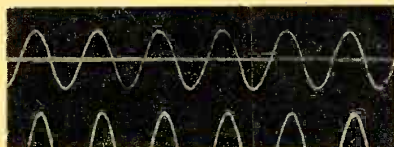

Fig. 1. An Interesting Oscillogram of the Resulting Wave Shape Which is Remarkably Sinusoidal.
(3) The wave of the alternating produced is remarkably sinusoidal in shape. This may better be illustrated by studying the oscillogram of the output current, Figure 1. This wave shape is admittedly better than that produced by most commercial alternators.